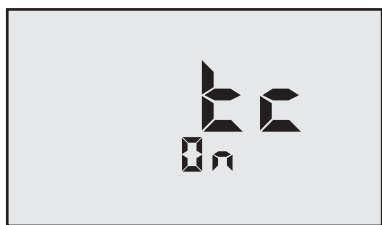

Figure 10
2. Press **MR** repeatedly until “**tc On**” is displayed (see Figures 10 and 11).